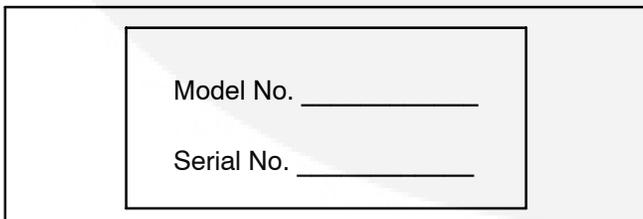
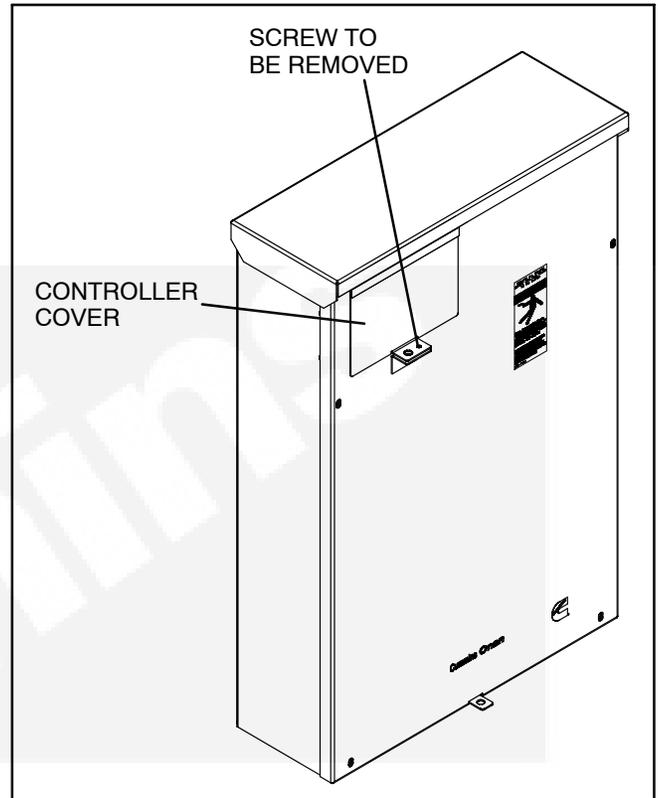

FIGURE 1-8. MODEL AND SERIAL NUMBER LABEL
FIGURE 1-9. TRANSFER SWITCH WITH CONTROLLER
- For models with a controller, a model and serial number label (see Figure 1-8) is located on the back of the controller cover. To view the label, remove the screw securing the controller cover and open the cover (see Figure 1-9).